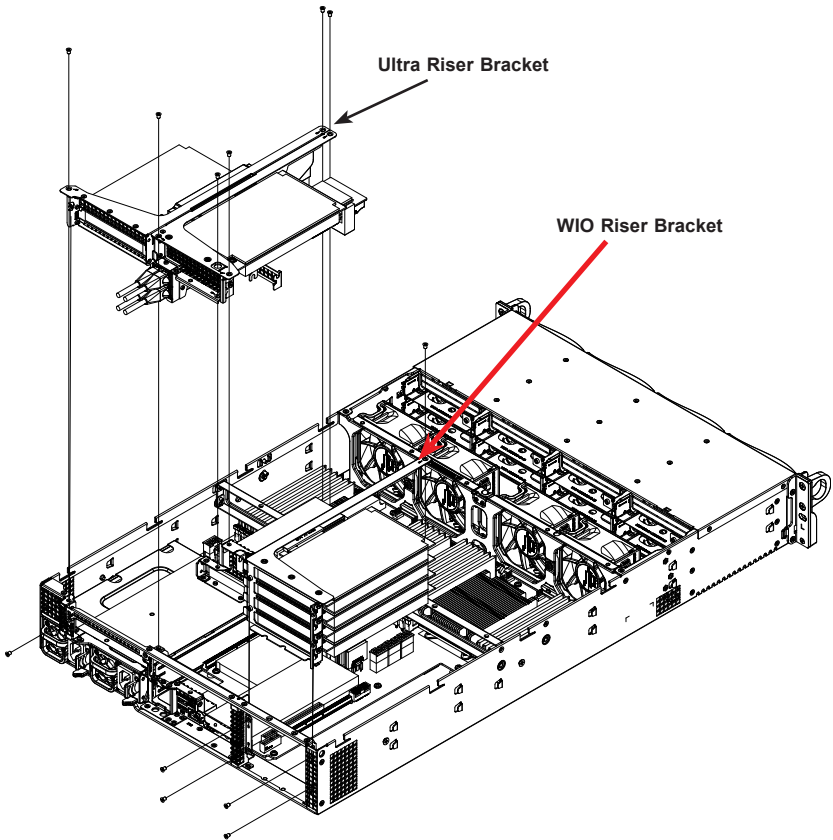

Figure 6-8. Expansion and Riser Cards—Rear View
2. Remove the Ultra riser bracket, then remove the WIO bracket as pictured in Figures 6-8 and 6-9. Note the screwdriver icons imprinted in the chassis. They indicate which screws must be removed to remove the brackets.